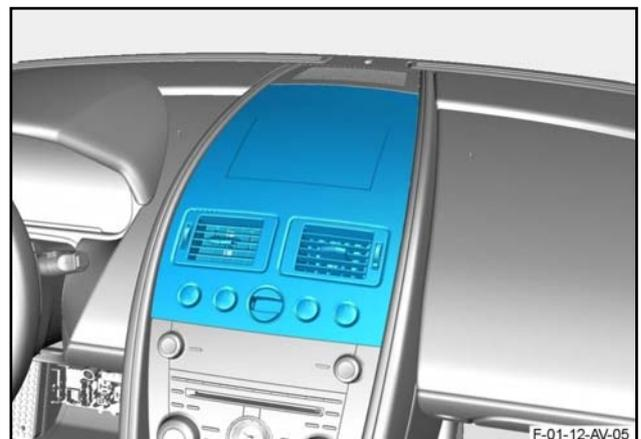

Figure 14
**CAUTION: DURING THE STEP THAT FOLLOWS, BE CAREFUL WHEN YOU INSTALL THE VENEER BEZEL FOR THE INSTRUMENT PANEL (IP). THE SURFACE FINISH CAN BE EASILY DAMAGED.**
17. Put the IP veneer bezel into position (refer to Figure 14).